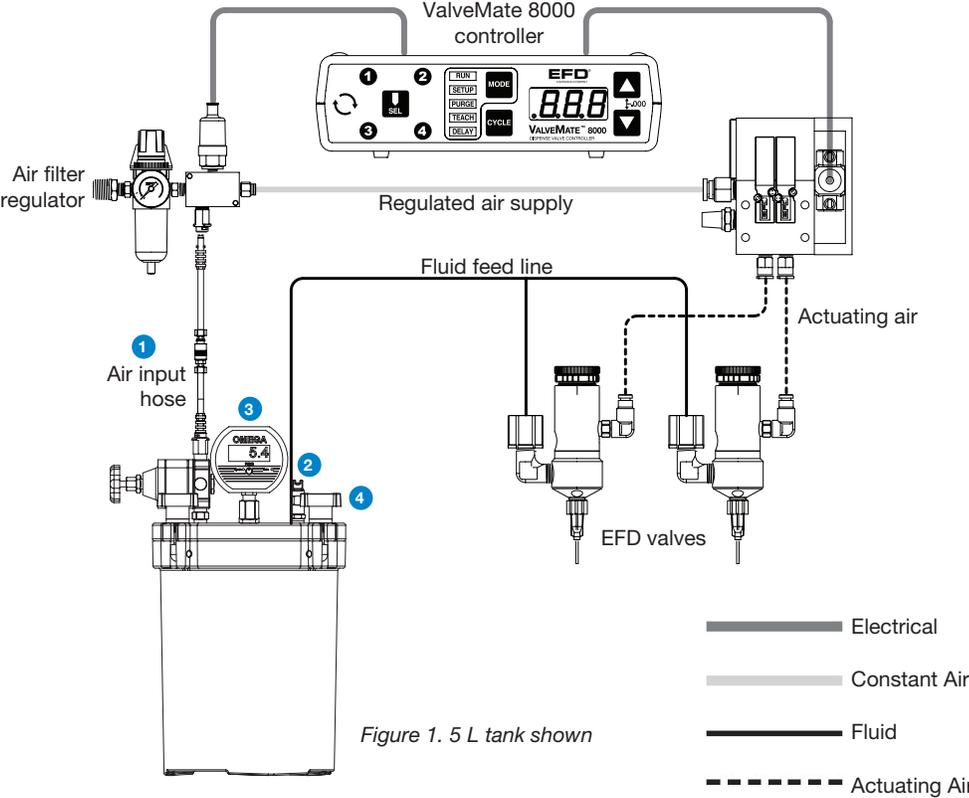
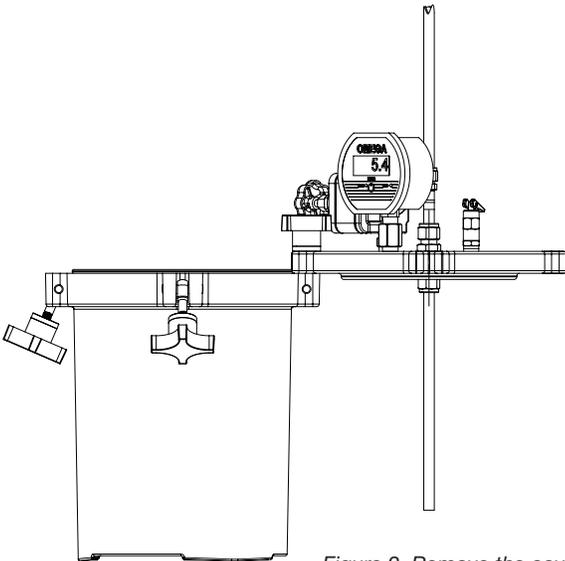

Figure 1. 5 L tank shown
Figure 2. Remove the cover
1. Slide the shutoff valve ① on the air input hose to exhaust. (Figure 1)
2. Actuate the air relief valve ②. Hold the relief valve open until any hissing sounds end.
3. Confirm that the indicated gauge pressure is zero ③. If the gauge reads zero, slowly release the cover clamps ④ and remove the cover as shown in Figure 2 (page 7).
3. Remove the tank cover and temporarily store it by reattaching one of the clamps (Figure 2). When refilling the tank, use a cup (not included) to catch any excess material that drips from the feed tube.